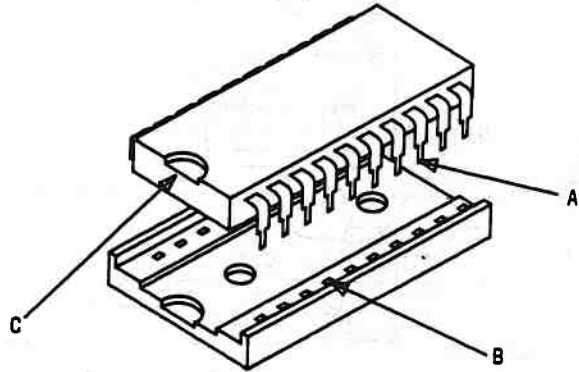

Figure 3-5. Inserting RAM Chip into the Socket
- Align the RAM chip pins (A) with a socket (B) as in Figure 3-5. Make sure that the notch in the chip (C) is facing the same direction as the other chips on the board. To insert, push the chip down firmly.